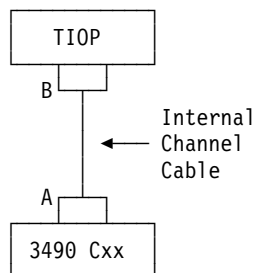

Figure 22. Tape Subsystem Cable Connections
The tape subsystem cables connect as shown in Figure 22.
- a. Disconnect the internal channel cable from the I/O device control unit (at **A** in Figure 22).
- Disconnect the internal channel cable from the TIOP card (at **B** in Figure 22 on page 667).
- Connect channel wrap block 2 to the TIOP card (at **B** in Figure 22 on page 667).
- c. Reconnect the internal channel cable to the TIOP card (at **B** in Figure 22 on page 667).
- d. Reconnect the internal channel cable to the I/O device control unit (at **A** in Figure 22 on page 667).